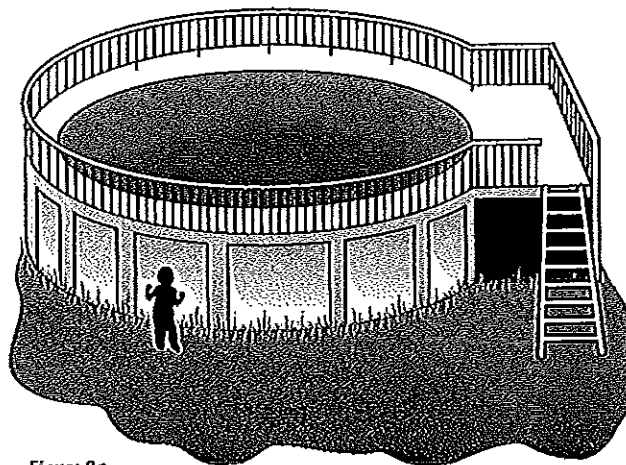

Figure 8a
12. Where an above ground pool structure is used as a barrier or where the barrier is mounted on top of the pool structure, and the means of access is a ladder or steps (figure 8a), then